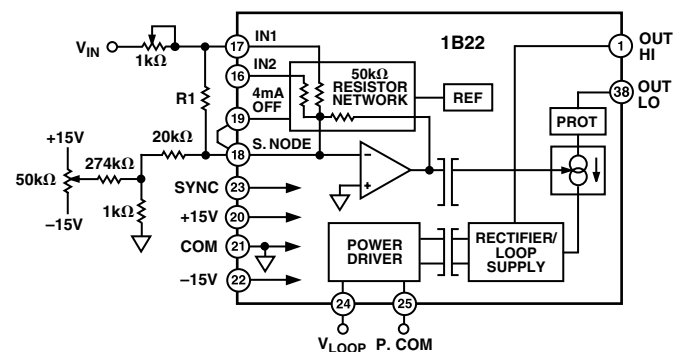

Figure 4. Optional Offset and Span Adjustment
**Optional Trim Adjustments:** Figure 4 is an example of using potentiometers for trimming gain and offset for a 0 V to +10 V input and 4 to 20 mA output. The network for offset adjustment keeps the resistors relatively small to minimize noise effects while giving a sensitivity of  $\pm 1\%$  of span. The value of R1 should be 5 M $\Omega$  for the 0 V to +10 V range (for 0 V to +5 V configurations, a 1.2 M $\Omega$  resistor should be used). For more adjustment range, resistors smaller than 274 k $\Omega$  can be used.